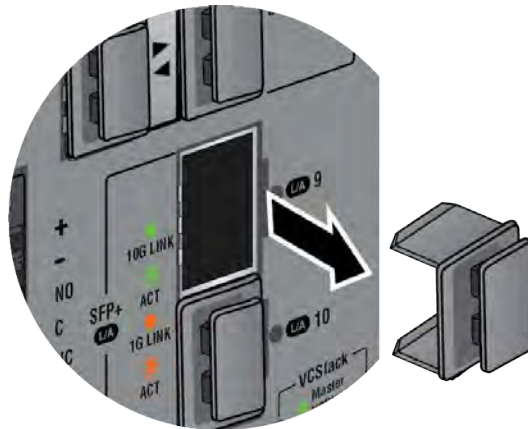

Figure 38. Removing the Dust Plug from a Transceiver Port
1. Remove the dust plug from the selected transceiver port. Refer to Figure 38.